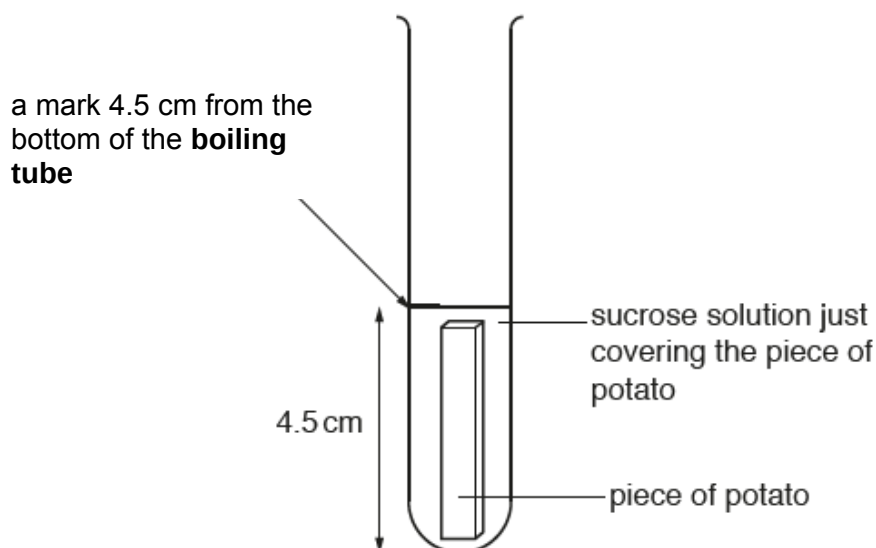

Fig. 1.3
1. Measure 4.5 cm from the bottom of each **boiling tube** and put a mark, as shown in Fig. 1.3.
- (i) Decide on the length of each piece of potato cylinder you will use, so that the volume of sucrose solution just covers the piece of potato, as shown in Fig. 1.3.